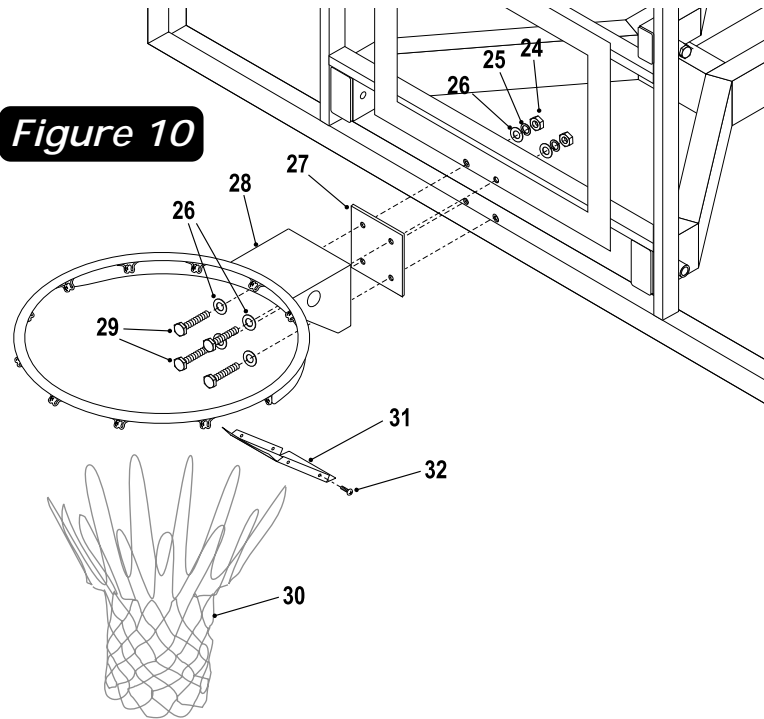

Figure 10
- Remove protective backboard covering and mount Goal Assembly (#28) and Rim Pad (#27) to Backboard, as shown in Figure 10, using four bolts (#29), eight washers (#26), four lockwashers (#25) and four nuts (#24). Tighten fasteners finger tight, leave them loose enough to level rim.
- Attach Rim Cover Plate (#31) using four screws (#32). See Figure 10. **CAUTION!** Never use rim with coverplate removed!